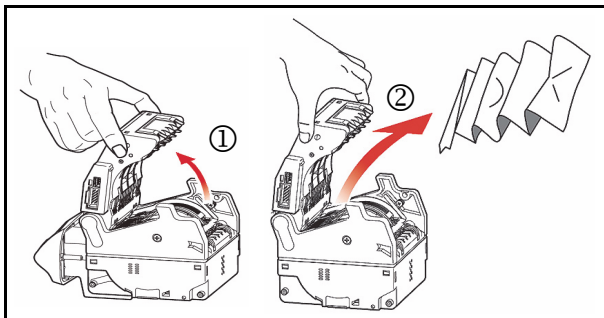

Figure 2-9 Upper Area Banknote Jam Removal
2. Press-in on the Upper Lid Open/Close Buttons and open the Upper Lid in the direction indicated in Figure 2-9 ①.
3. Remove the jammed Banknote as illustrated in Figure 2-9 ②.